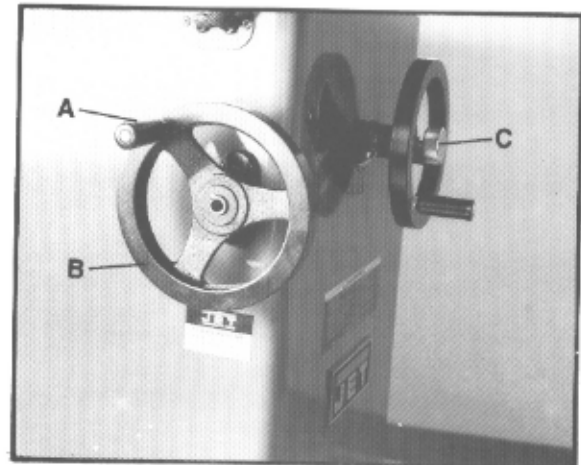

Fig. 8
1. Attach handle (A, Fig. 8) to hand wheel (B, Fig. 8).
5. Install center lock knob (C, Fig. 8) by inserting into the center hole in the shaft and threading in a clockwise direction.